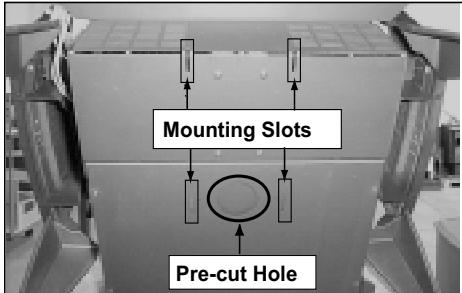

Figure 17.1
- Figure 17.1 shows bottom of convection blower mount and pre-cut air vent opening for reference only. Air channel should be mounted with stove in upright position.